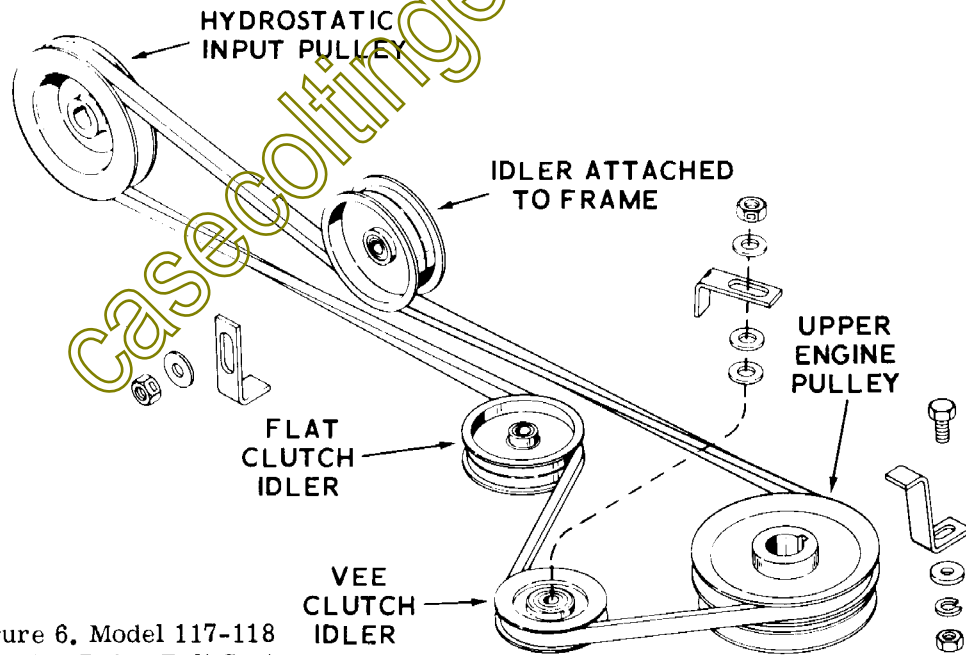

Figure 6. Model 117-118 Traction Drive Belt System.
- a. Remove the battery and loosen the belt keeper located above the Vee Clutch Idler (Figure 6).
- f. Install the new belt first over the fan and onto the hydrostatic input pulley, then onto the upper engine pulley and last onto the Vee and Flat Clutch idlers as shown in Figure 6. Make certain the belt is properly installed as illustrated with the flat side against the flat idlers and the "V" side in the Vee idlers. If the belt is accidentally looped the wrong way, reverse rotation of the hydrostatic transmission will occur resulting in forward motion when the travel lever is put in reverse, and reverse motion when the travel lever is put in forward.